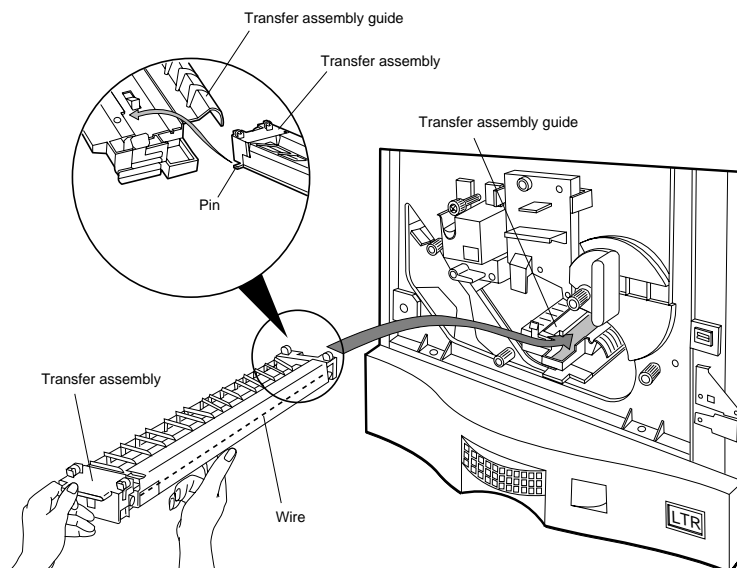

Figure 5-7 Removing the Transfer Assembly
3. Push in and pull up on the transfer assembly to free it from the guide assembly, as shown in Figure 5-7.